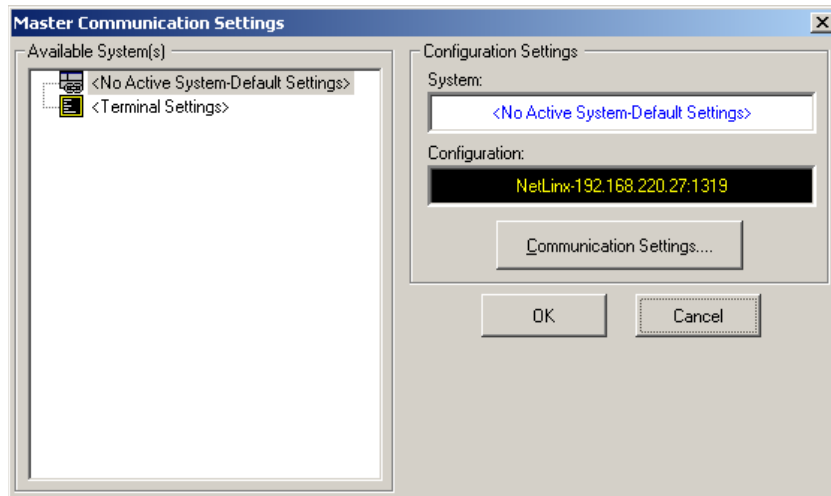

FIG. 33 NetLinX Studio - Master Communication Settings dialog
1. In NetLinx Studio, select **Settings > Master Communication Settings** to open the *Master Communication Settings* dialog (FIG. 33).